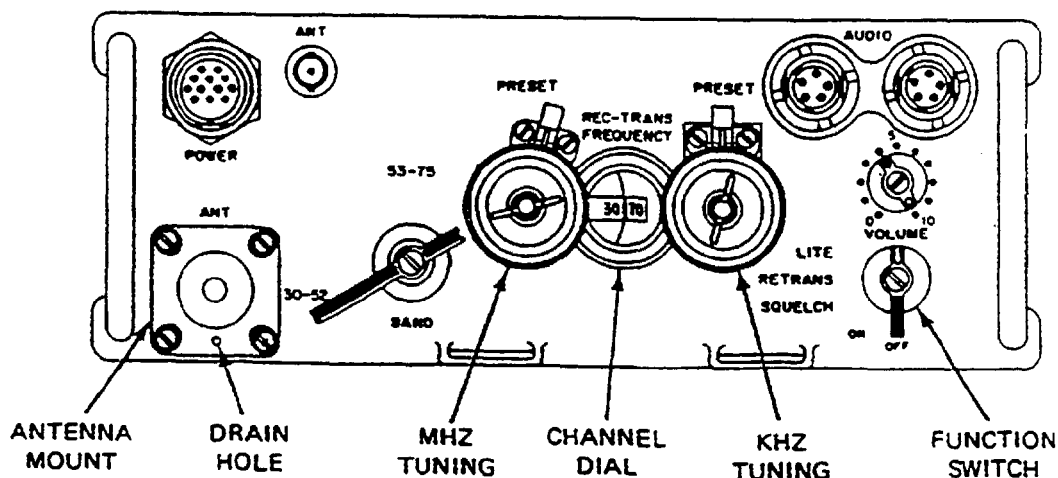
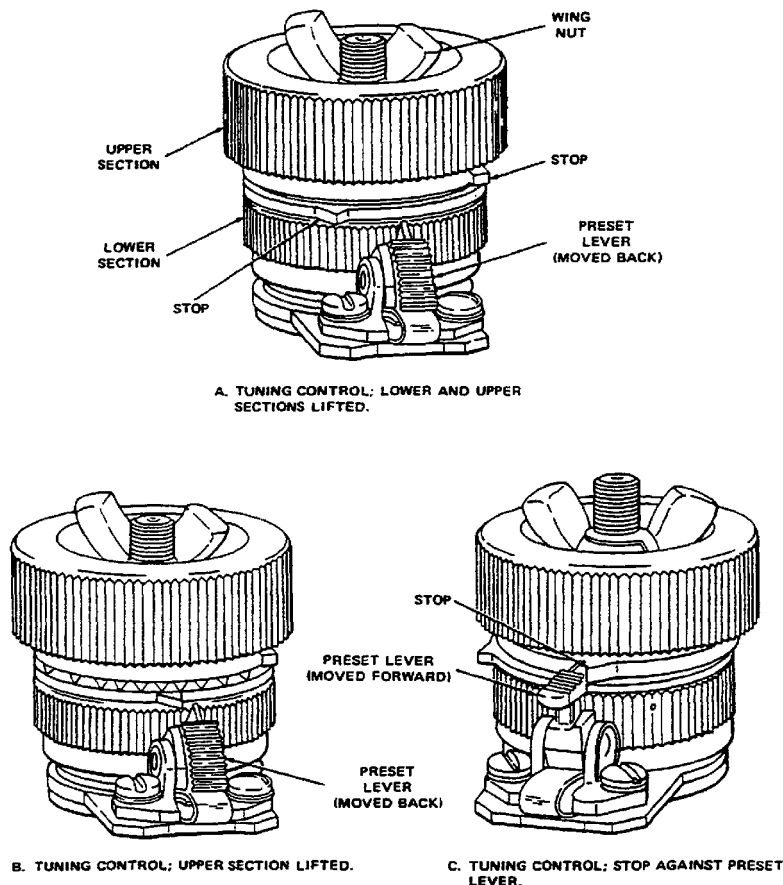

Figure D-12. Receiver-Transmitter, Radio RT-841/PRC-77 Controls, Indicators, and Connectors
Figure D-13. Presetting MHZ and kHz Tuning Controls
D-21. **Receiver-Transmitter, Radio RT-841/PRC-77, Control, indicators, and Connectors** (Figure D-12).
See figure D-12 for controls, indicators and connectors for Receiver-Transmitter, Radio RT-841/PRC-77.
D-22. **Presetting Channel Frequencies** (Figure D-12 and D-13).
On the MHZ and kHz controls (Figure D-12) are preset levers that can be set to catch the stops on each control (Figure D-13). Thus, when two channels are preset, they can be selected without looking at the channel dial (Figure D-12). Use the procedures in a. below to set the kHz control; use the procedures in b. or c. below to set the MHZ control.
(2) Set the kHz control so that the lower frequency appears in the channel dial.
(3) Position the preset lever forward against the control (C, Figure D-13) and loosen the wingnut on the control.
(4) Pull up on the upper section of the control and turn it counterclockwise until the stop on the lower section strikes the preset lever. Tighten the wingnut.
(5) Position the present lever away from the control.
(6) Turn the control until the higher frequency appears in the channel dial (both sections move).
(7) Loosen the wingnut and position the present lever forward against the control.
(8) Without disturbing the setting of the lower section, pull on the upper section and turn it clockwise until its stop strikes the preset lever.
(9) Keeping the upper section against the preset lever, tighten the wingnut.
(10) Check the settings by turning the control counterclockwise to the stop for the lower and higher kHz frequency settings by turning the control counterclockwise to the stop for the lower kHz frequency, and clockwise to the stop for the higher kHz frequency.
(11) Set the MHZ control (b. below).
D-23. Selecting Preset Channels (Figure D-12 and D-13).
D-24. Operating Procedure (Figure D-12).